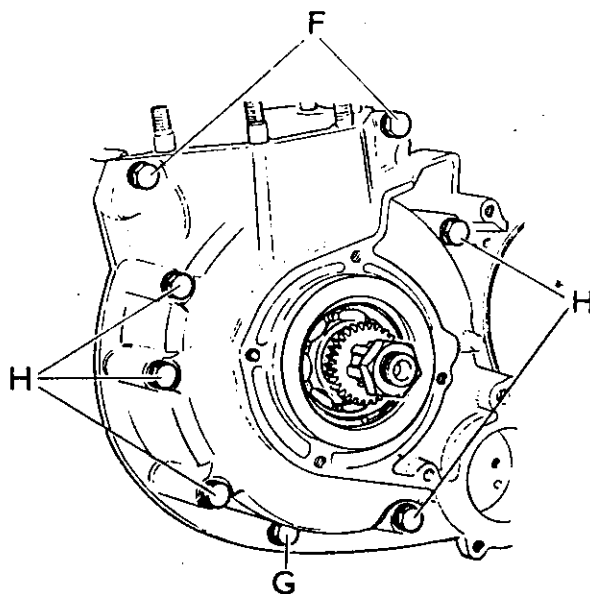

FIG. B.61. Crankcase screws, drive-side.
To remove drive-side crankcase remove the two bolts (F) from the crankcase mouth, the single bolt (G) from beneath the case, and the five bolts (H) from the front and back of the case (see Fig. B.61).